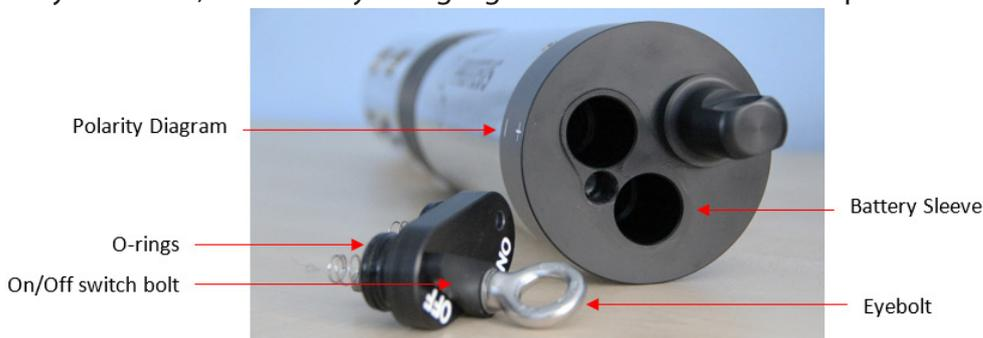

Figure 32: Changing of IBP batteries
1. Grasp the eyebolt on top of the battery housing (Figure 32) and unscrew until the cap moves free of the housing.
5. Replace the batteries (6 x C cell), paying careful attention to the polarity diagram on the outside of the sleeve (Figure 32).
7. If activating logging, move the switch bolt (Figure 32) into the 'ON' position (activation via the software must be done prior to this). The red light will flash 5 times to confirm logging has been successfully activated, followed by a single green flash to confirm adequate voltage is being received.